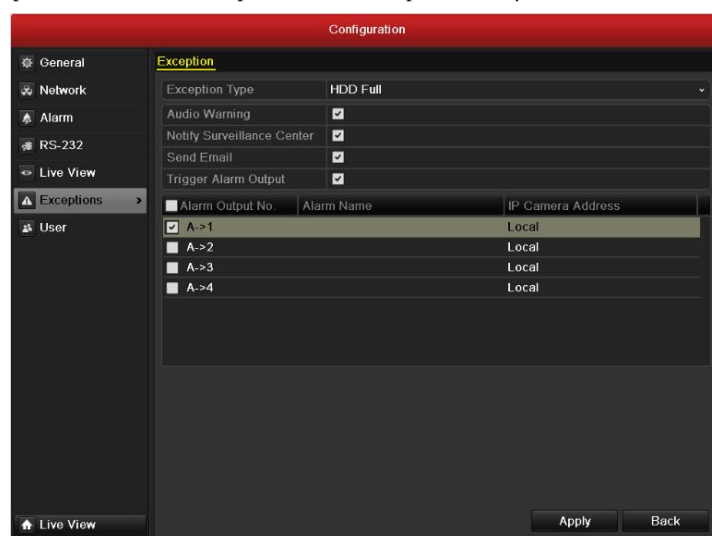

Figure 10.23 Configure HDD Error Alarm
3. Click the checkbox(s) below to select the HDD error alarm type (s), as shown in Figure 10.23.